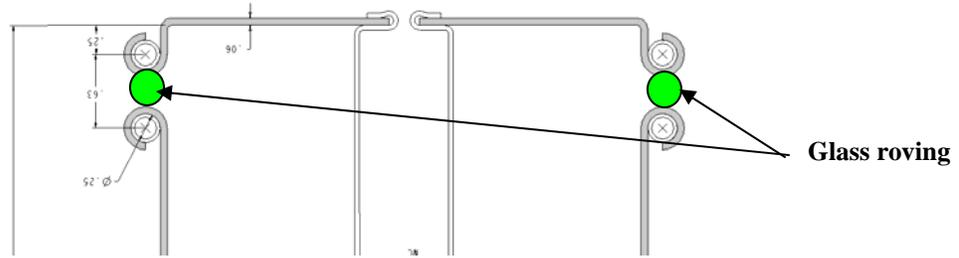

Figure 51- Glass Roving Between Cooling Tubes
- 6.49.6 Install glass roving (rope) in the areas between the cooling tubes. [Figure 51- Glass Roving Between Cooling Tubes]